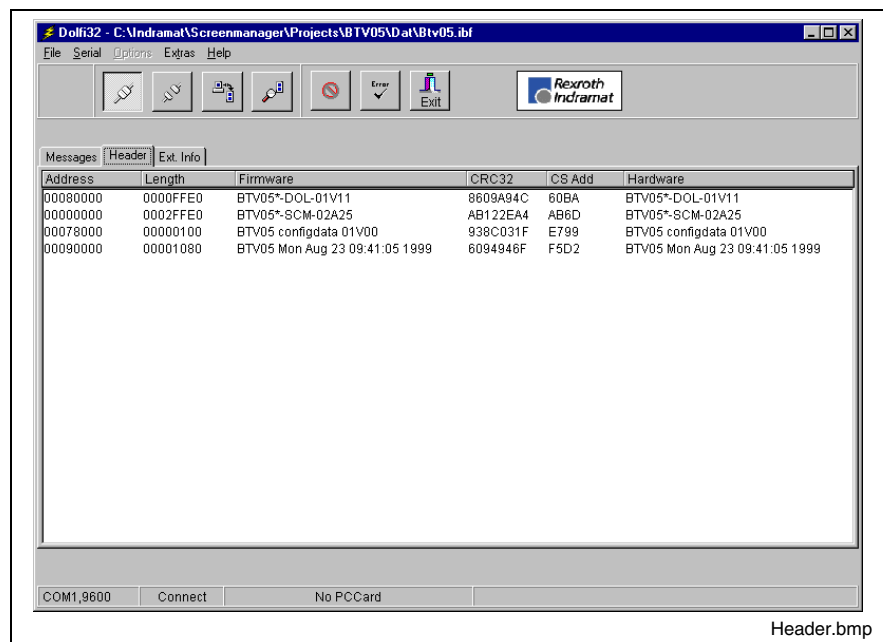

Fig. 8-4: Header list with four modules
- Fig. 8-4: Header list with four modules 8-4